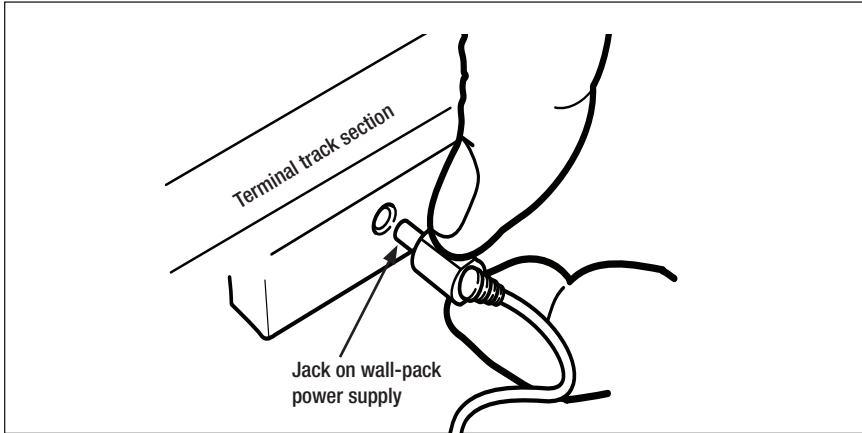

Figure 3. Wall-pack power supply connection
**Y**our trains are powered by a wall-pack power supply. To power the track, simply plug the wall-pack into an outlet and plug the jack into the terminal section as shown in Figure 3.